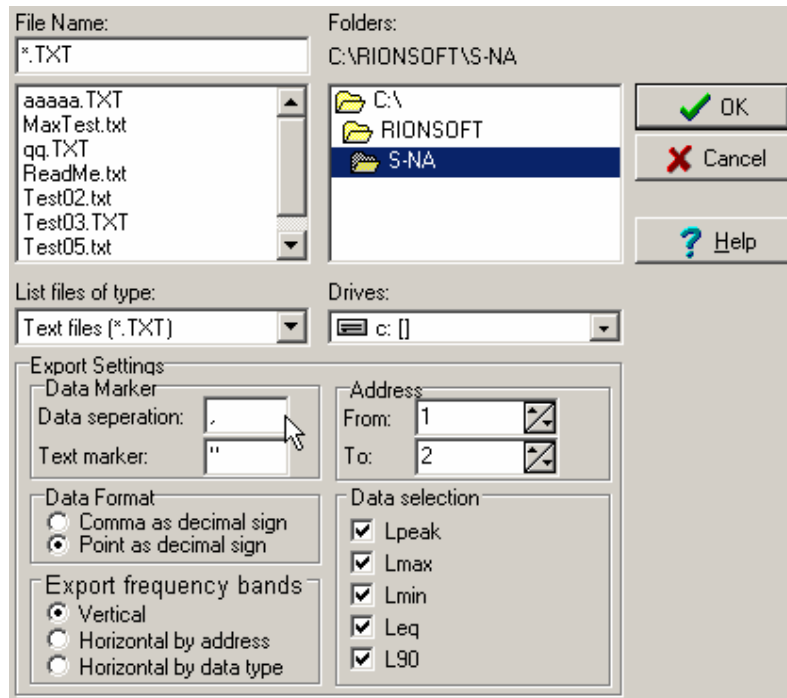

Fig. 3: Data Export Settings Page
15. To save data as an ASCII text file '*.TXT' click on 'Data' in the toolbar, then click on 'Export' and a pop-up box appears. Select an appropriate filename and file location and before saving data, click in the 'Data separation' box, delete the semi-colon (;) and insert a comma (,) in place of the default semi-colon. (See Fig. 3) Click on 'OK' to save file to disk.